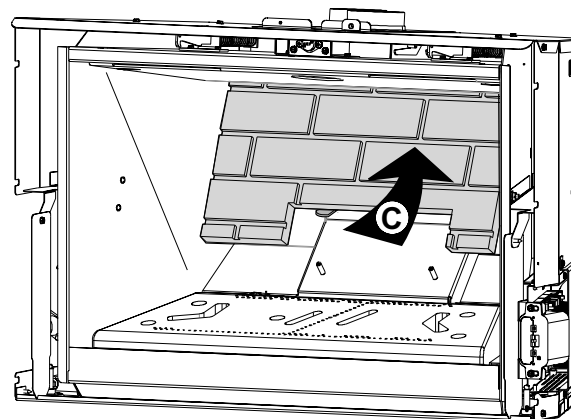

Fig. 7.11
2. Install the Rear Panel (C) up against the back wall, resting on the support tabs. Fig. 7.11.